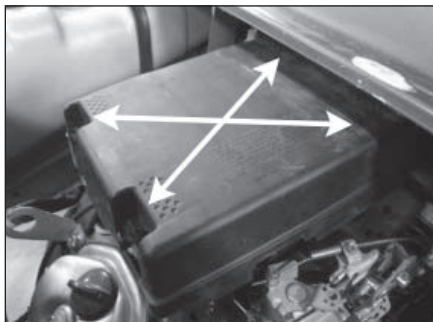

Figure 1 - Air Box Top
1. Release the four clamps holding the top cover on the OEM air box, then remove the lid. See Figure 1.